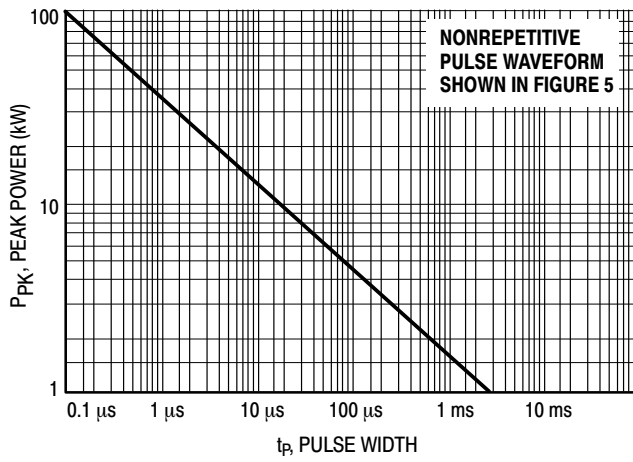
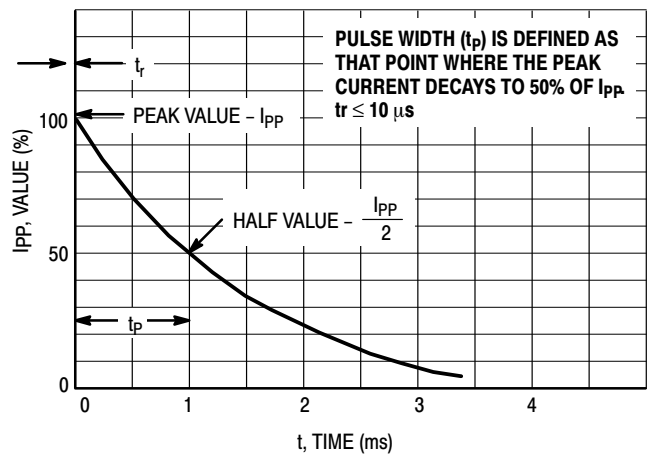
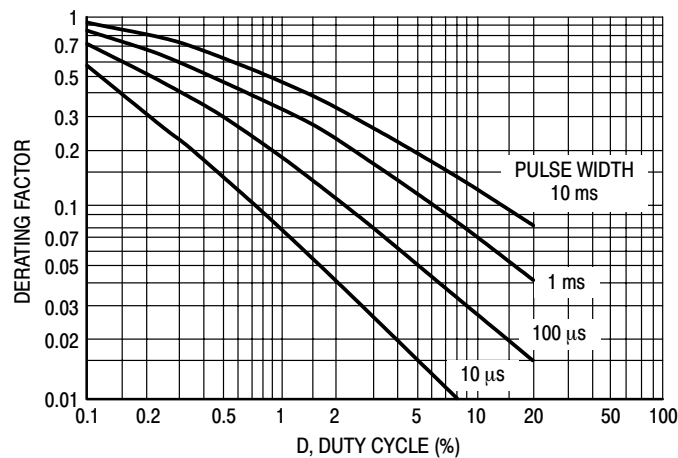

Figure 1. Pulse Rating Curve
Figure 5. Pulse Waveform
Figure 7. Typical Derating Factor for Duty Cycle
7. Surge current waveform per Figure 5 and derate per Figures 1 and 2.
The data of Figure 1 applies for non-repetitive conditions and at a lead temperature of 25°C . If the duty cycle increases, the peak power must be reduced as indicated by the curves of Figure 7. Average power must be derated as the lead or
At first glance the derating curves of Figure 7 appear to be in error as the 10 ms pulse has a higher derating factor than
the 10 μ s pulse. However, when the derating factor for a given pulse of Figure 7 is multiplied by the peak power value of Figure 1 for the same pulse, the results follow the expected trend.